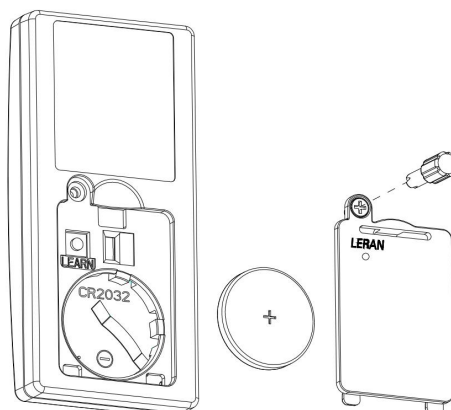

FIG. 4
1. Loosen screws with a screwdriver and pull the battery casing out. Remove the old battery. (FIG. 4)